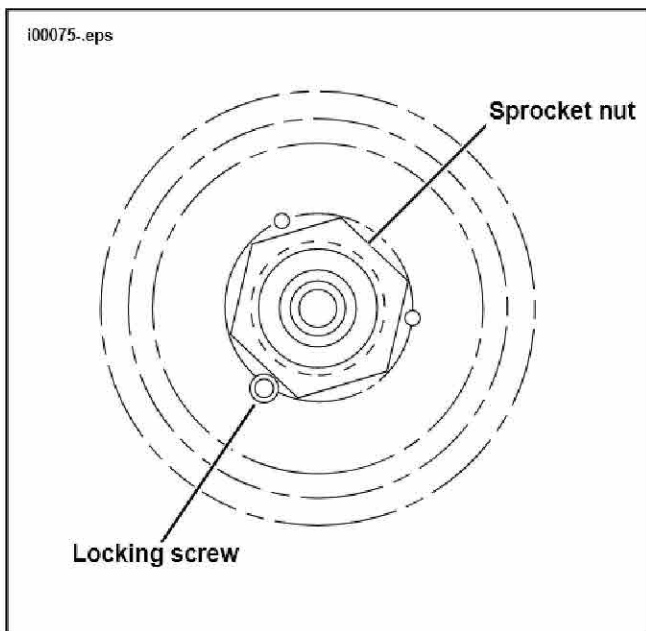

Figure 3. 1991 and Earlier Transmission Sprocket Nut
- See Figure 3. Remove transmission sprocket nut locking screw.